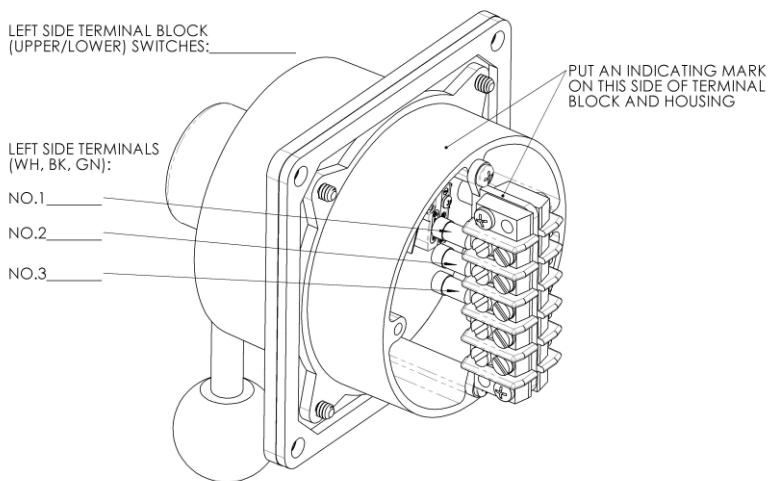
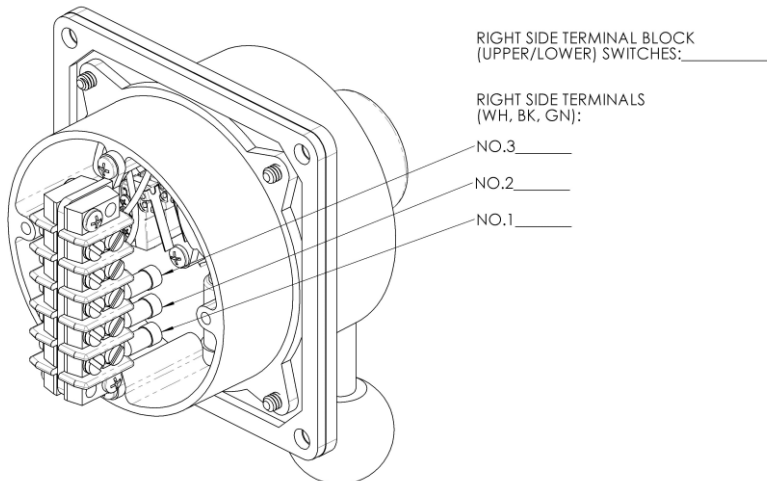
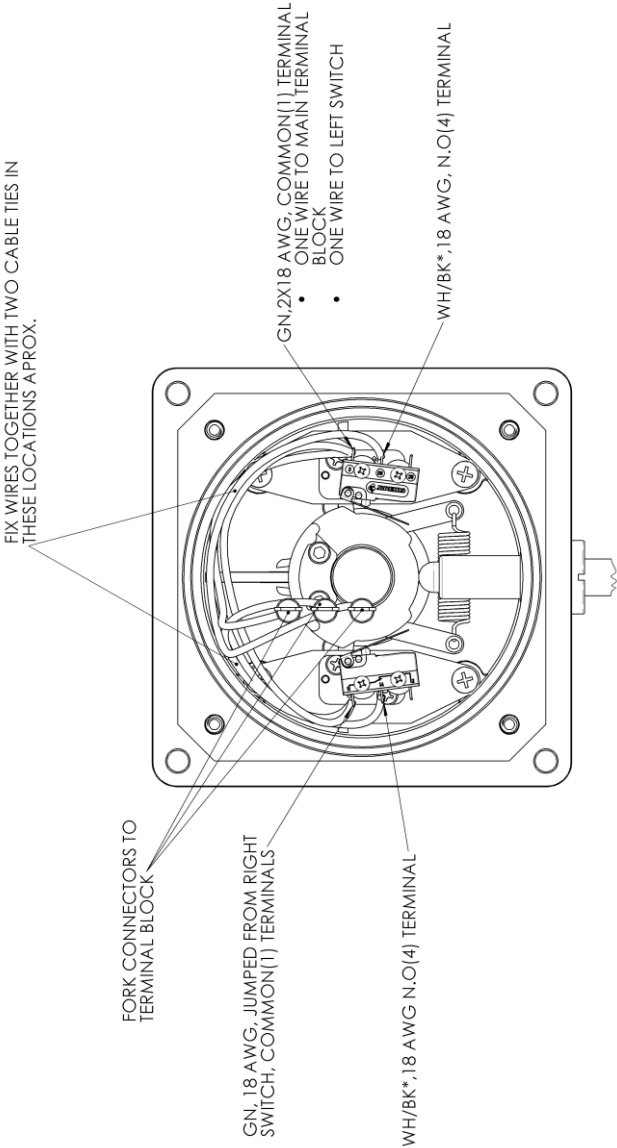
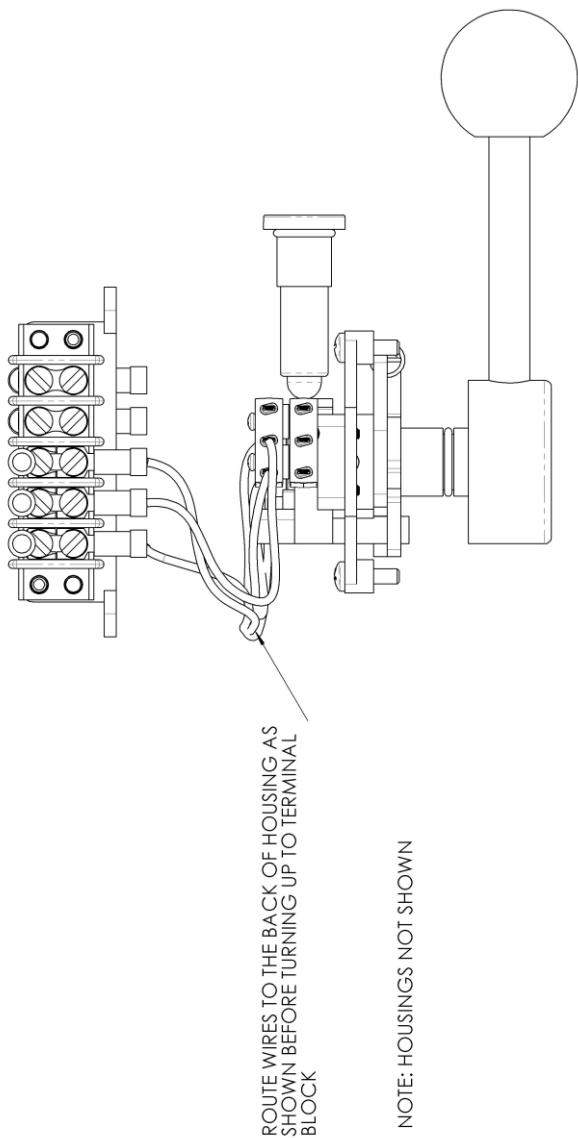

Figure 11: Dual jog left side terminal connections.
Figure 12: Dual jog right side terminal connections
Figure 15: Wiring diagram from upper switches
Figure 16: Wiring diagram for upper switches, main terminal block
- c. Refer to Figure 11 and Figure 12; Fill out the side of the terminal block which the upper and lower switches are routed to.
- d. Refer to Figure 11 and Figure 12; Fill out the colour of wire to each of the terminal block positions.
- e. Refer to Figure 11; Use a marking material such as a paint marker to put an indicating mark on the terminal block and housing to ensure terminal block is reinstalled in the same orientation.
For upper switches, it is recommended to route the wires as shown in Figure 15 and Figure 16. For lower switches, the same path can be followed except the wires go to the right side terminal block. If necessary, replace the old wires with 18 AWG wire of the same insulation colour.
21. Solder the wires to the terminals of the new microswitches as shown in Figure 15. Keep the white and black wires routed to the same side as with the previous switches as noted in step 3, as well as the upper and lower switch connections as noted in Figure 11 and Figure 12.
23. Use X2 plastic cable ties to secure the routed wires together in the positions indicated in Figure 15.
25. Reconnect all the switch wires to the terminal block, refer to Figure 11 and Figure 12 for which wires go to which terminal positions.